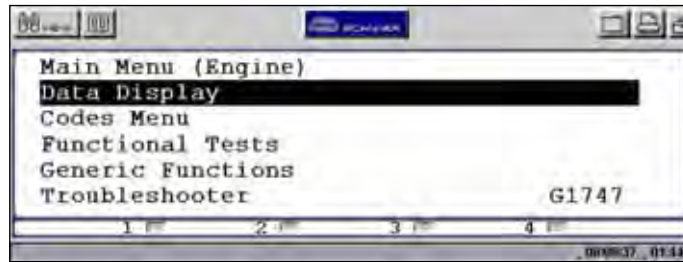

Figure 5-13 Sample Software Confirmation screen
- Press **N/X** until you reach the main menu (Figure 5-13).